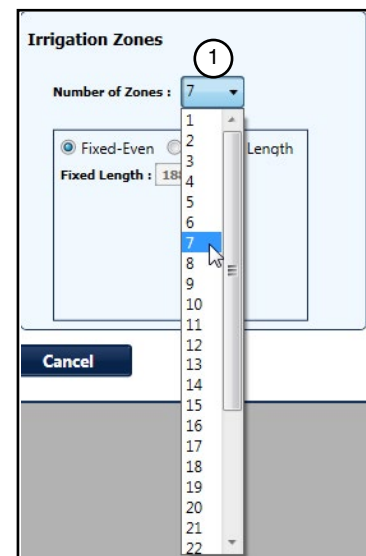

Figure 9-4 1. Menu
1. In the Irrigation Zones section, select the number of zones in the **Number of Zones** drop-down menu. The maximum number of zones allowed is 30. See Figure 9-4.